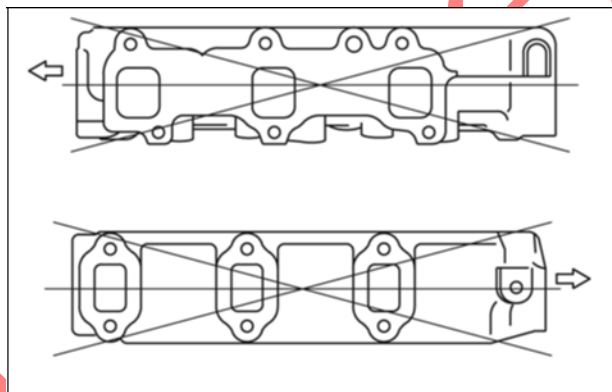

Figure 13
3. If mounting surfaces are distorted more than 0.1 mm (0.004 in), the cylinder head must be replaced (Figure 13).